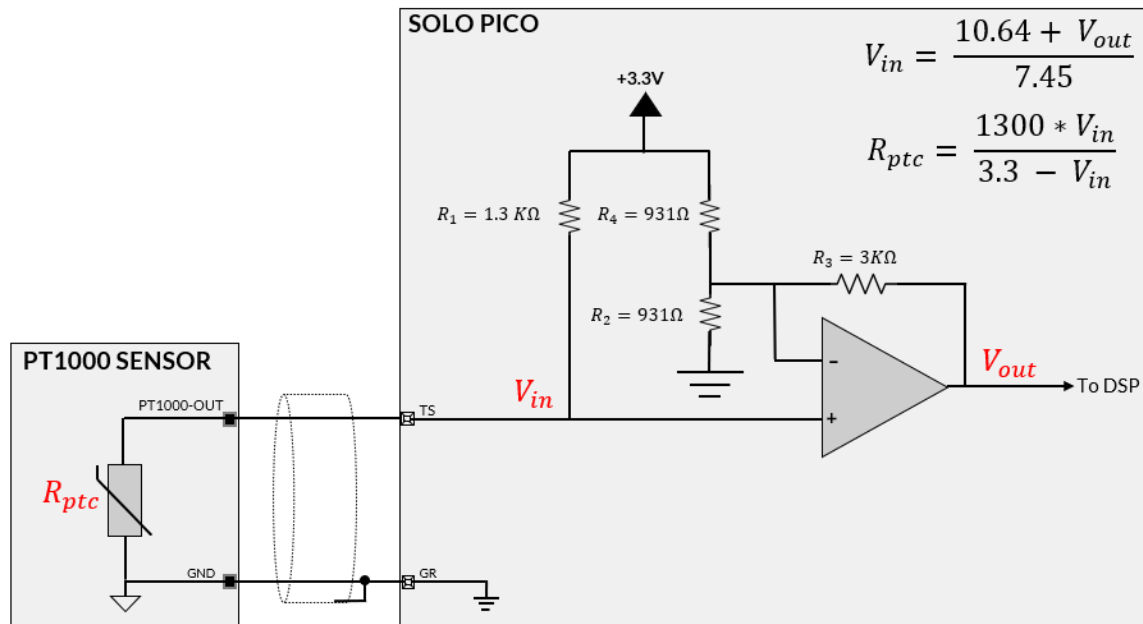

Figure 19 - PT1000 temperature sensor wiring
PT1000 temperature sensor is a positive-temperature-coefficient resistor. As shown in Figure 19 in SOLO PICO by connecting a PT1000 temperature sensor to the TS pin, the temperature can be measured.
3. Compute the PT1000 resistance as the PT1000 temperature sensor is practically a resistor, it will form a resistor divider network with R1 resistor shown above in Figure 19.